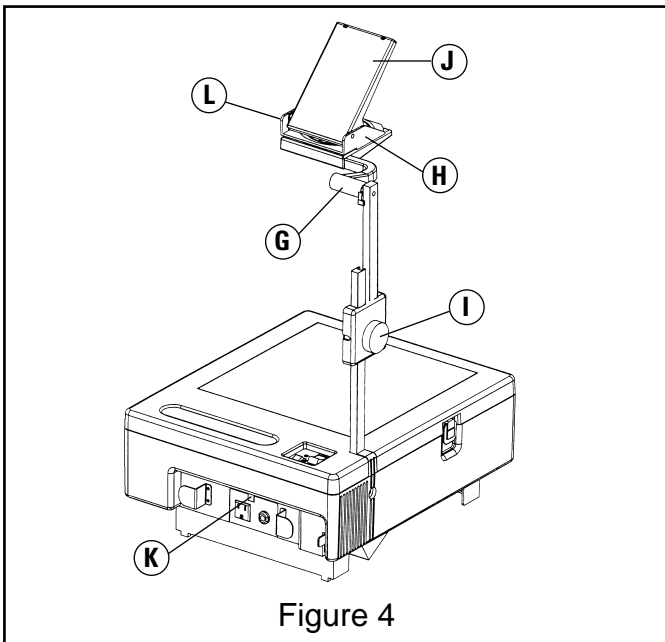

Figure 4
7. While holding the top of the post, grasp the horizontal arm (G) and pull sideways in the direction indicated by arrow #1, and rotate the arm to bring the projection head assembly (H) up into viewing position (See figure 4). Release the arm and it will spring back and lock into viewing position.
OPERATING INSTRUCTIONS: Model 5000 (figure 4)